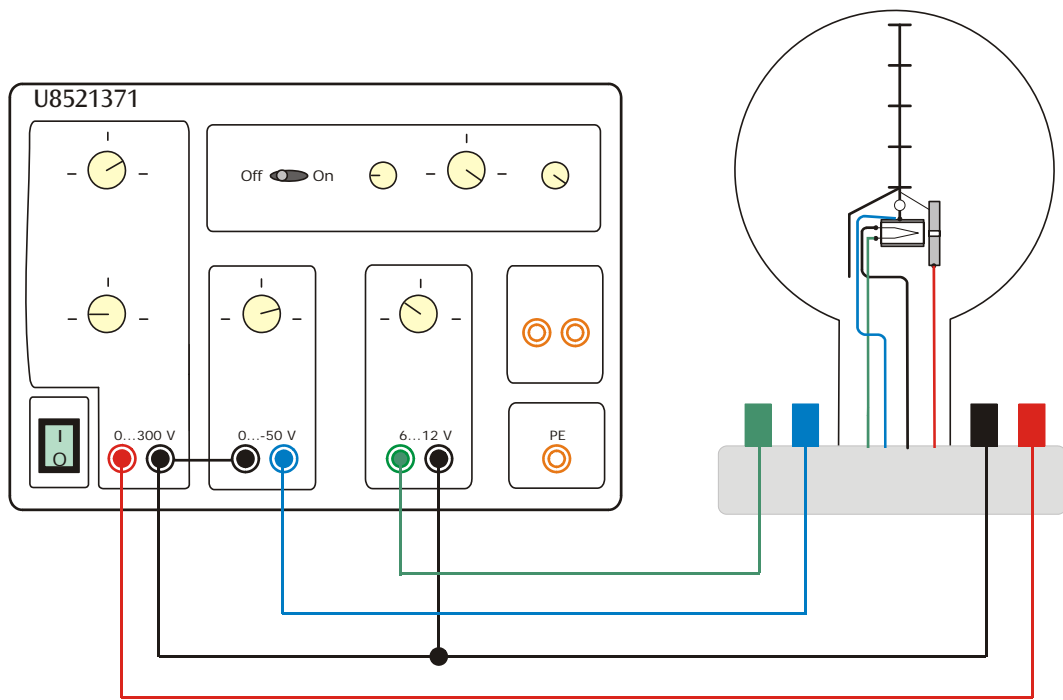

Fig. 1 Electrical connections from the fine beam tube to the DC power supply unit 300 V
- Set up the tube as in fig. 1.